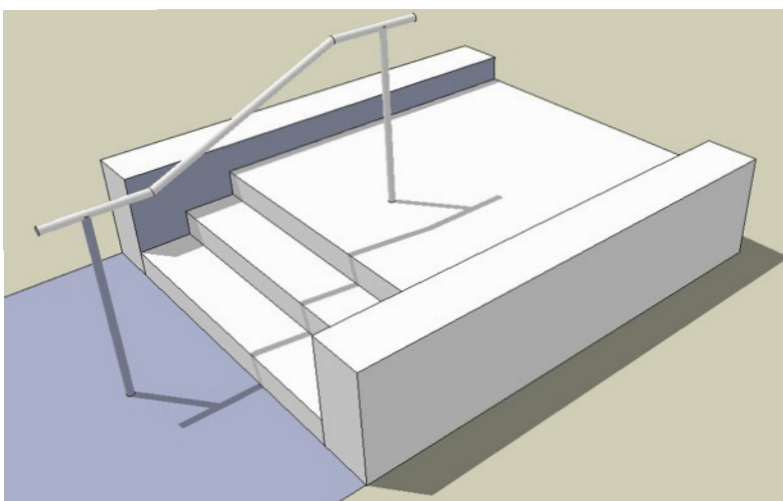

Figure 77. The completed handrail before material is applied using the Paint Bucket
- Figure 77 shows the completed handrail. Use the **Paint Bucket** to apply a metal aluminium material.